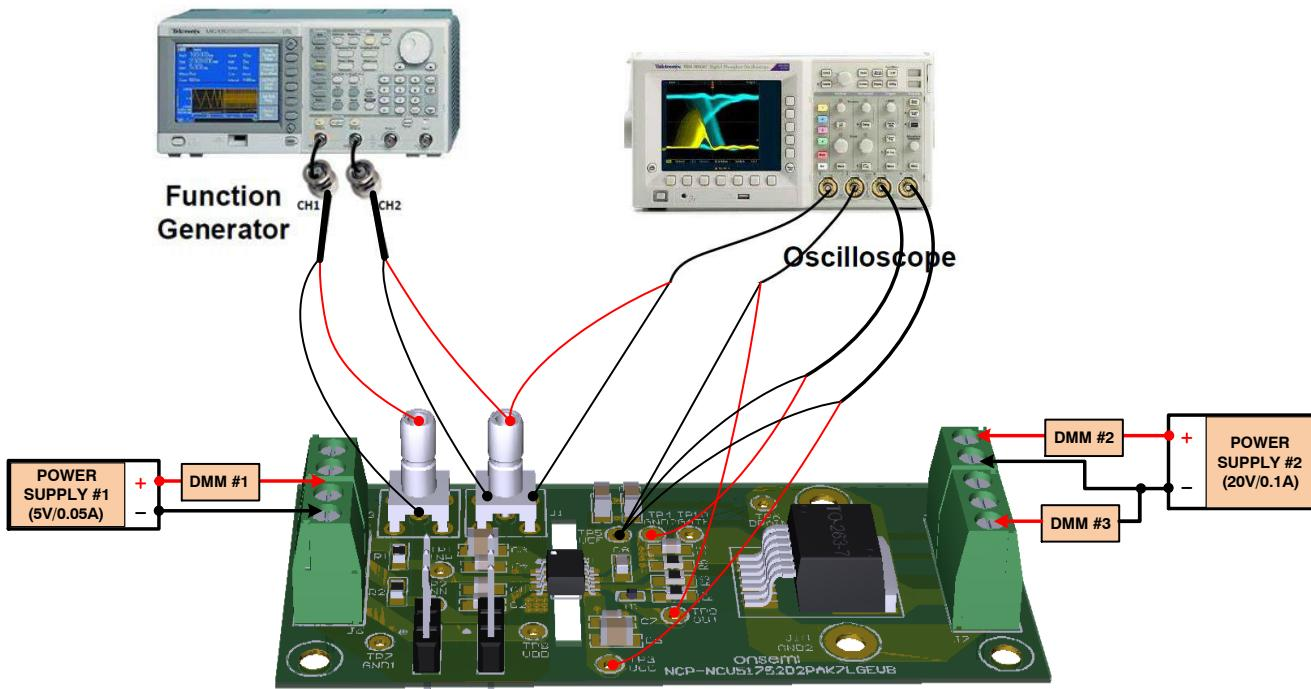

Figure 2. Bench Setup Diagram and Configuration
Follow the connection procedure below and use Figure 2 as a reference.
- Function generator channel-B channel (CH2) applied on IN+ (J1 or J2 pin-1) \leftrightarrow TP1 as seen in Figure 2.
- Function generator channel-A channel (CH1) applied on IN- (J3 or J2 pin-2) \leftrightarrow TP2 as seen in Figure 2.